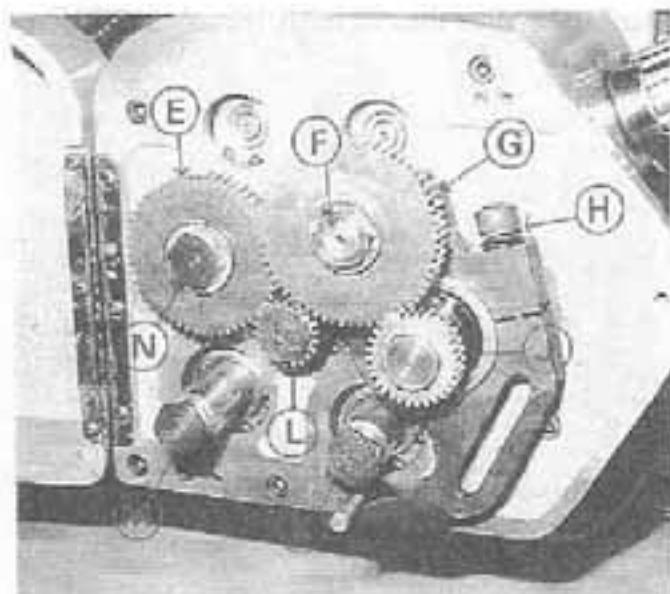

Figure 7 - Mounting Change Gear Bracket
7. Mount Change gear bracket assembly, Figure 6, on pivot post "V", Figure 5. Do not tighten bracket bolt "H", Figure 7, fully.
8. Make certain key is in place and mount "Screw Gear" "J", Figure 7. Replace bolts "K" and "M".
9. Adjust "Second Gear on Stud" "G", Figure 7, with 0.003-0.004 backlash between it and "Screw Gear" "J". Use plastic shim stock to help determine backlash. Tighten bolt "F".